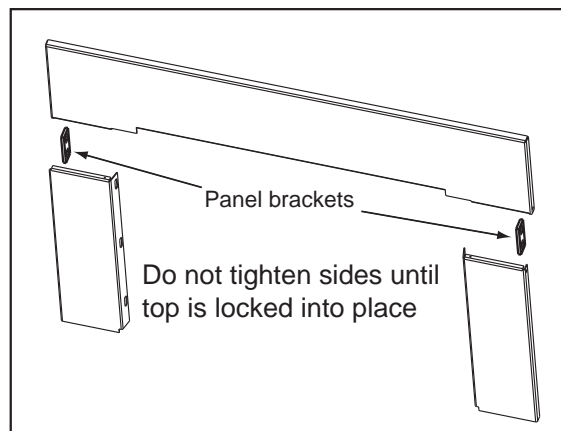

Figure 21.2
4. Assemble the panels and temporarily attach to insert. Push insert into opening leaving 1 inch (25mm) protruding out the front. Confirm the panel size is correct for the opening and that the face can be sealed off from room air when installation is complete. **Figures 21.2 & 21.3.**
- b. Put top panel in place pushing straight back and then to the right to lock onto top of side panels. Attach the top panel to the sides using the panel brackets included in the fasteners package. **Figure 21.2.**